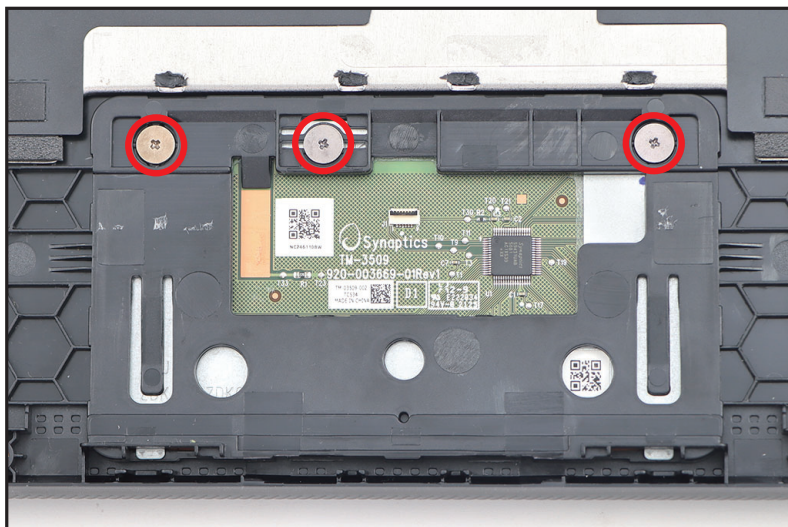

Figure 1-16. Touchpad Module Removal
6. Remove three (3) screws securing the touchpad module (Figure 1-16).